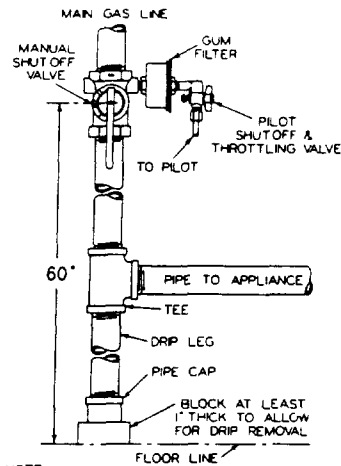
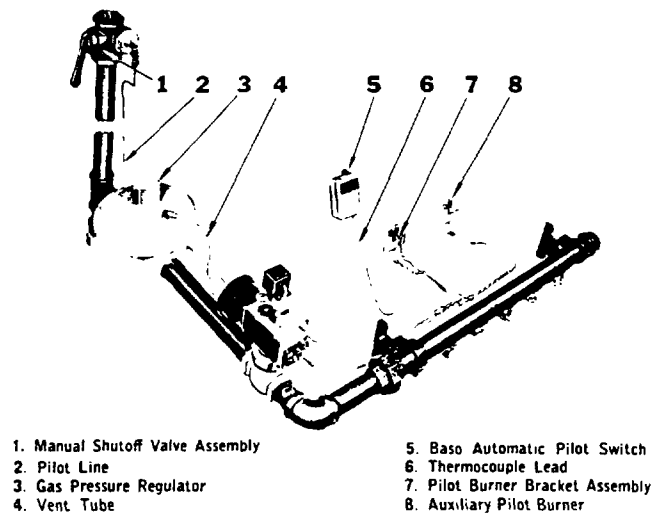
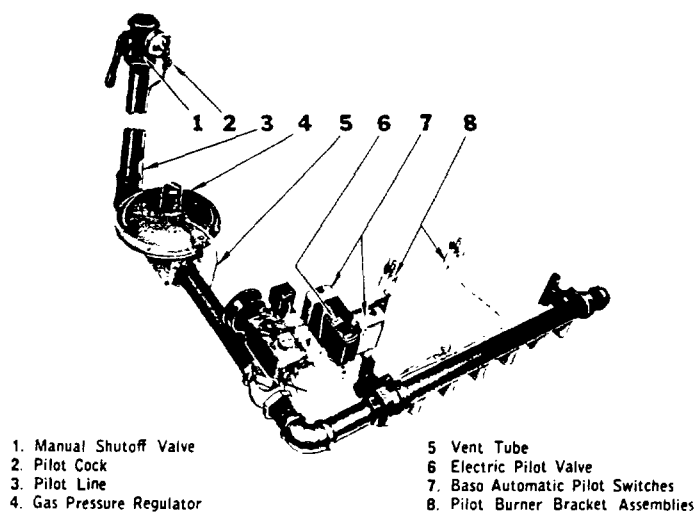

FIG. 15—Supply Piping Manual Ignition
FIG. 16—Control Connections
FIG. 21—Control Connections
1. Connect pilot line from manual shutoff valve, Fig. 15, to union in line to pilot burner. See Fig. 16.
1. Connect pilot line from manual shutoff valve assembly, see Fig. 15, to electric pilot valve. Then connect pilot line from electric pilot valve to pilot burners. Attach bracket containing electric pilot valve and BASO 850 switches to burner access door frame with one 10-24 x $\frac{1}{2}$ screw and one $\frac{3}{8}$ -16 x 1" brass hex head cap screw which holds burner access door frame in place. See Fig. 21.